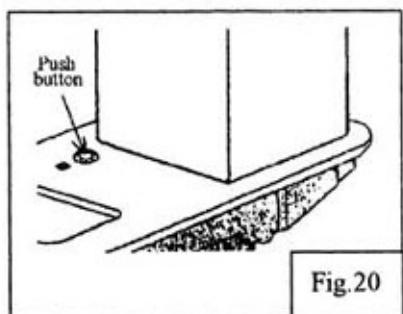
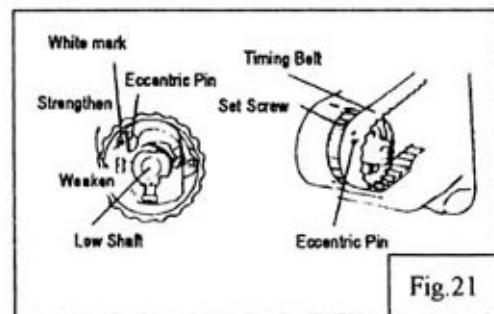

Fig.20
Fig.21
15. Safety clutch device (Fig.20, Fig.21)
2) How to set the safety clutch (Fig.20)
3) Force applied to the safety clutch (Fig.21)